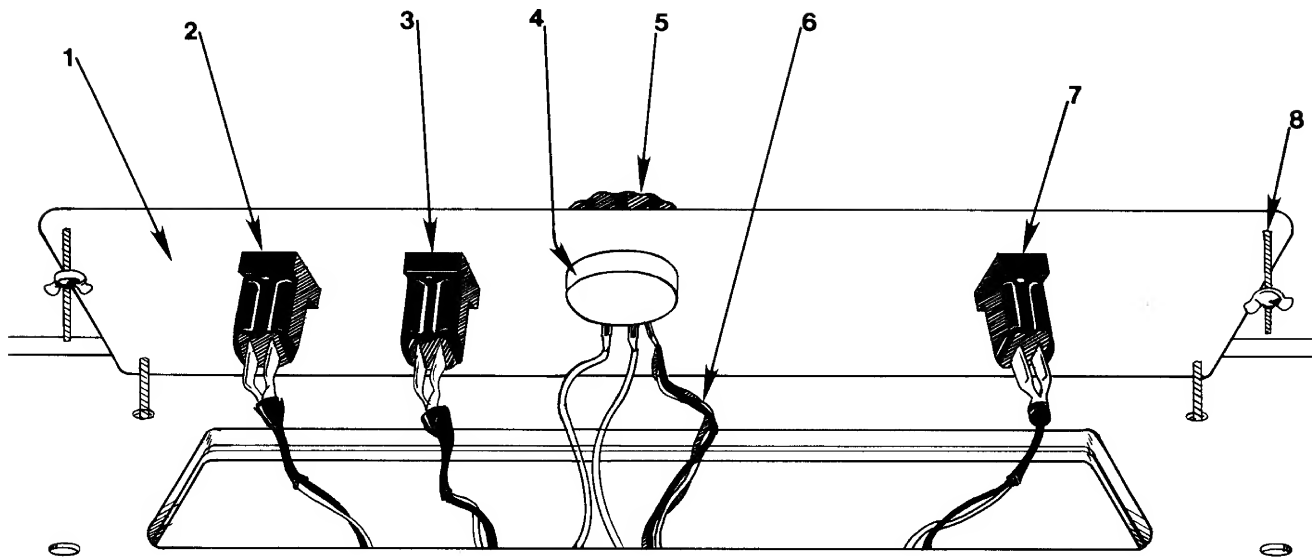

Figure 4: Control Panel
RIPCORD has three switch selectable options. These are controlled by a seven segment DIP switch located on the main logic board at position 14A (see Figure 4, item 8). This switch is accessible from the front of the game through the coin door.
A. RIPCORD Control Panel (see Figure 4)